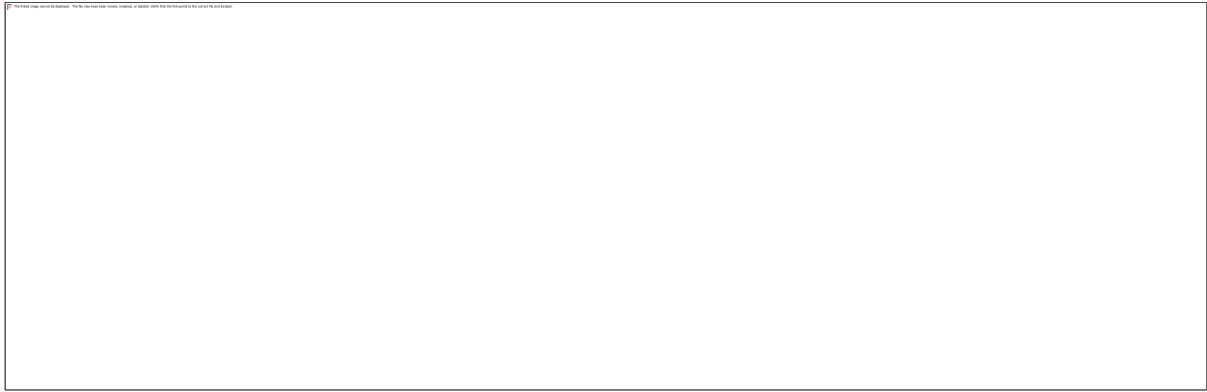

Figure 4-4
17. Now select *Reports/Mainline Design Reports/System Duty Report*. Here we see the system duty required to run the system you have designed (Figure 4-4).